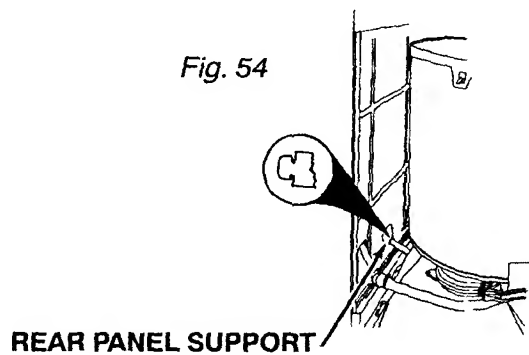

Fig. 54
1. When reinstalling the rear panel support, press in on the rear panel and rotate the support to lock the panel in position. (Fig. 54)